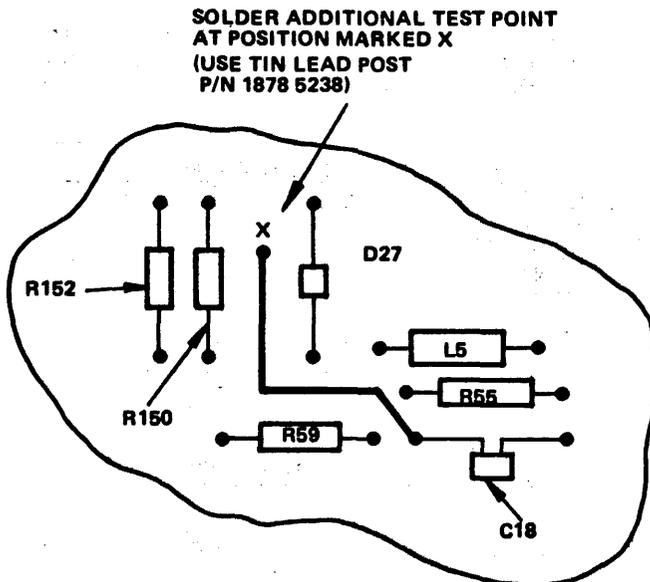

Figure 4-4. Component Layout Showing the Position of Recommended Test Point
- Connect a 30 K ohm jumper resistor from +5 volts to the test point at the IC8 end of Capacitor C18. Refer to figure 4-4.
To aid future circumferential alignment adjustments using the DTM 1000 or BDM 1250 it is recommended that a test point be soldered on the track leading from Capacitor C18, at the point marked X, between resistor R150 and diode D27 (refer to figure 4-4). A 30K ohm jumper resistor can then be connected between this test point and the +5 volt line as per step 2 of the adjustment procedure. For the test point use tin lead post P/N 1878 5238.
- Connect a 30K ohm jumper resistor from +5 volts to the test point at the IC8 end of capacitor C18. (Refer to figure 4-4).